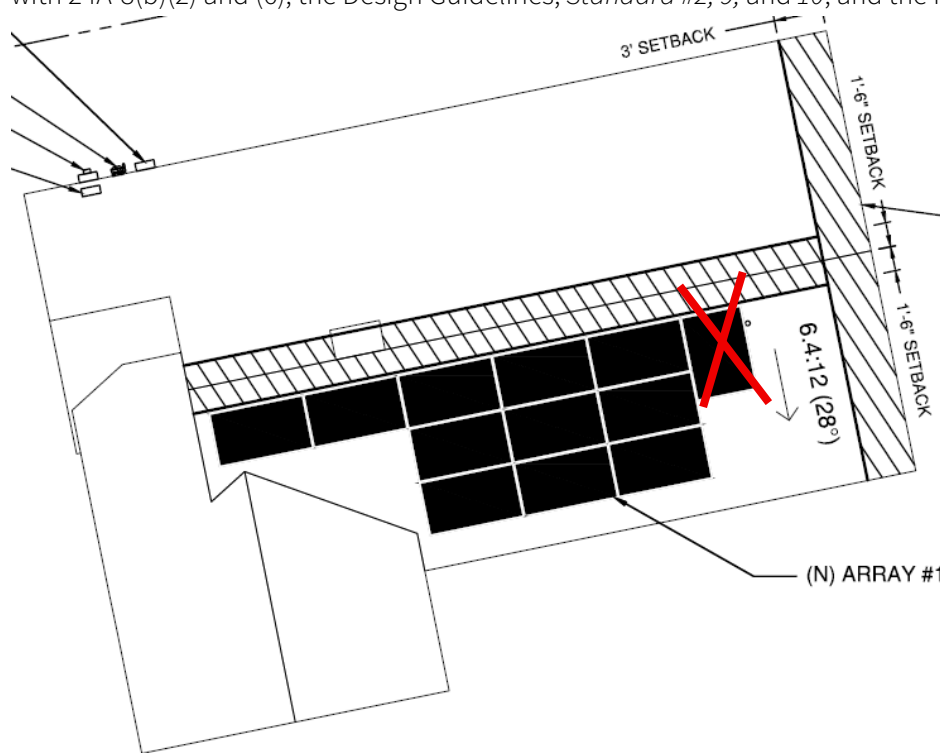

Figure 4: Staff recommends the HPC condition the approval of the HAWP to eliminate the panel marked with a red 'X'.
be largely obscured by the porch's gable roof and therefore will not have a substantial visual impact on the house's historic character. However, staff finds that the easternmost panel rotated 90° from the other panels and is not consistent with the rest of the array. This panel appears to be oriented in this way to avoid an existing roof vent. Staff recommends that the HPC add a condition to the approval of this HAWP that eliminates this panel (see Fig. 4, below). Staff would also support the relocation of this vent and the installation of additional panels, creating a four-panel wide by three-panel tall arrangement, plus the two panels that extend to the west. With the recommended condition, Staff finds the proposal is consistent with 24A-8(b)(2) and (6); the Design Guidelines; *Standard #2, 9, and 10*; and the HPC Solar Policy.